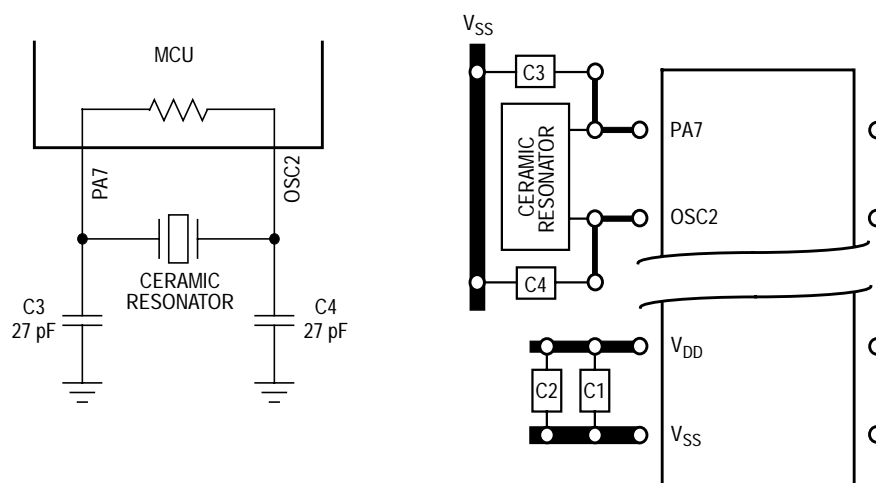
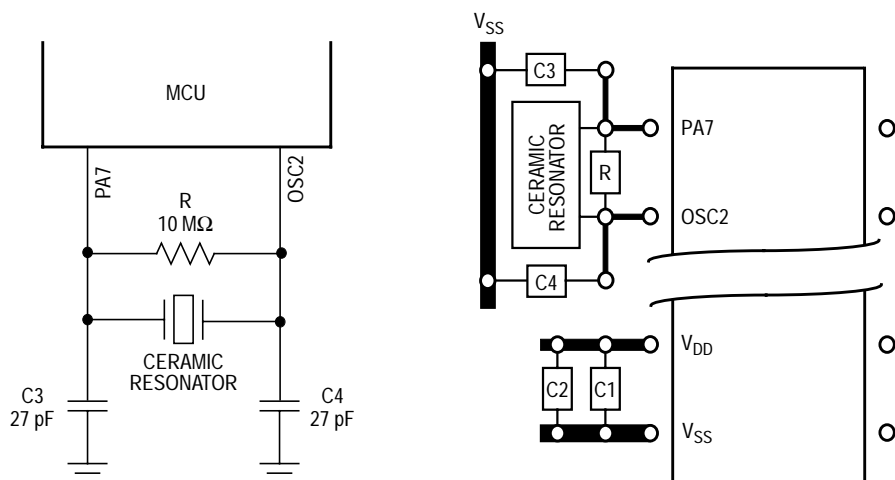
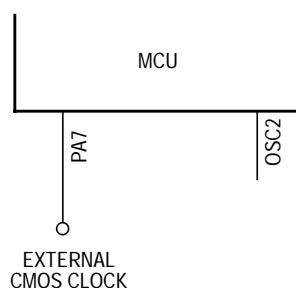

Figure 2-5. Ceramic Resonator Connections with Oscillator Internal Resistor Mask Option
Figure 2-6. Ceramic Resonator Connections without Oscillator Internal Resistor Mask Option
Figure 2-7. External Clock Connections
2. Ceramic resonator (See Figure 2-5 and Figure 2-6.)
3. Resistor/capacitor (RC) oscillator (Refer to Appendix A. MC68HRC705KJ1.)
4. External clock signal as shown in (See Figure 2-7.)
To reduce cost, use a ceramic resonator instead of the crystal. The circuits shown in Figure 2-5 and Figure 2-6 show ceramic resonator circuits. Follow the resonator manufacturer's recommendations, as the resonator parameters determine the external component values required for maximum stability and reliable starting. The load capacitance values used in the oscillator circuit design should include all stray capacitances.
An external clock from another CMOS-compatible device can be connected to the OSC1 input, with the OSC2 input not connected, as shown in Figure 2-7. This configuration is possible regardless of whether the crystal/ceramic resonator or the RC oscillator is enabled.